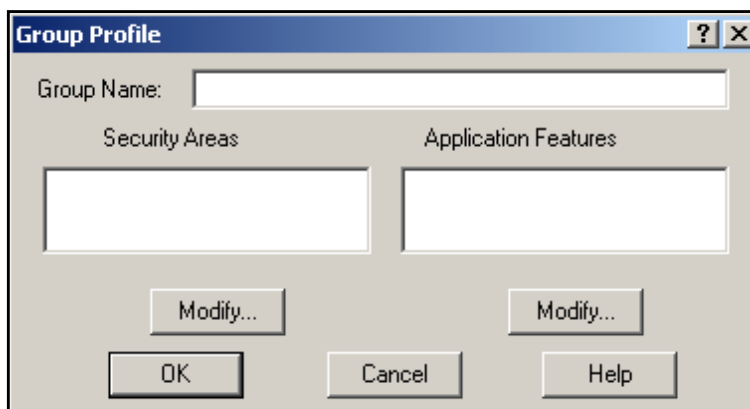

Figure 26: Group Profile Window
3. From the Group Accounts option, click the Add button. The Group Profile window (Figure 26 on page 39) opens.